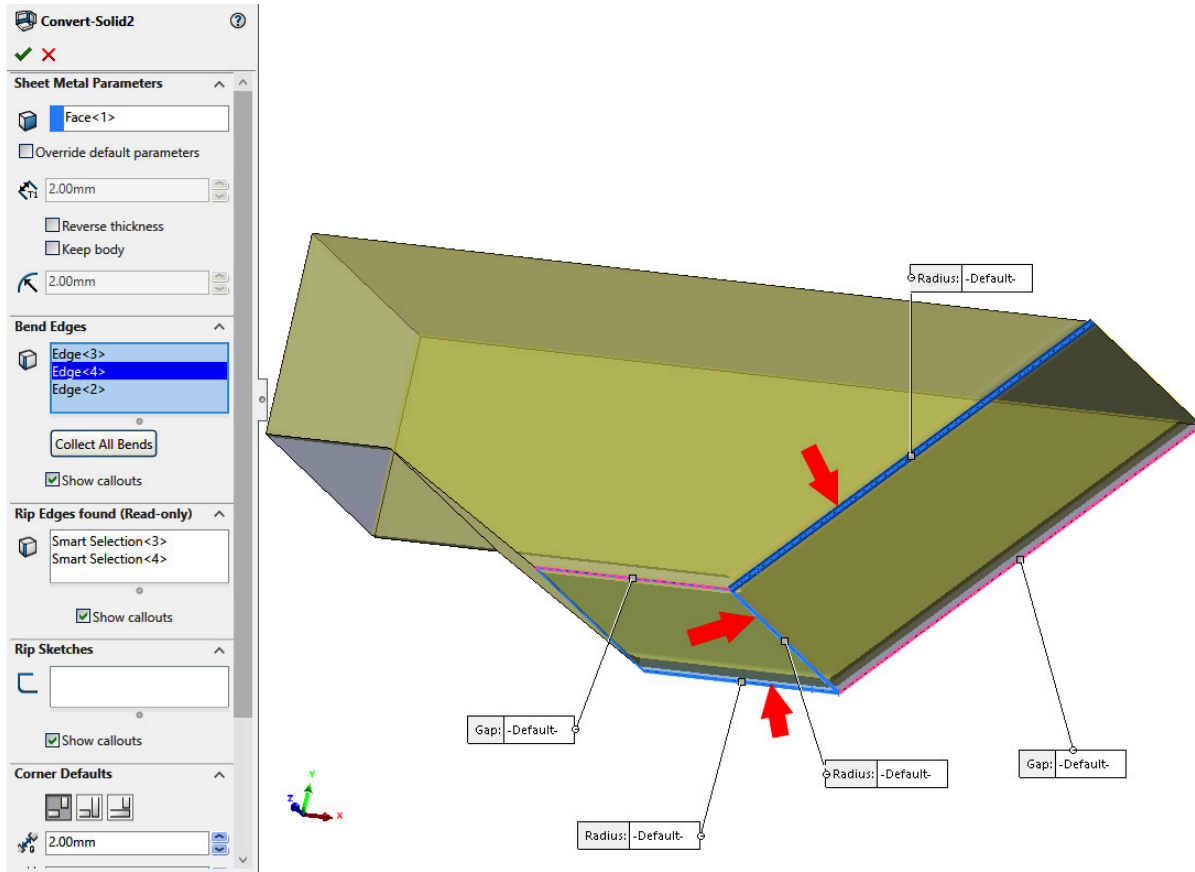

Figure 12.9: Edit the feature and change the Bend Edges
2. Clear all of the selections in the **Bend Edges** selection box and select the three edges shown in *Figure 12.9*.